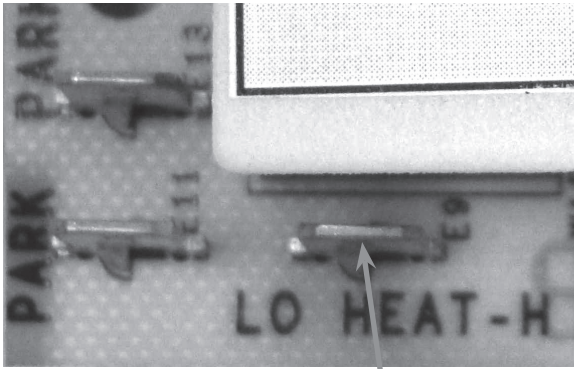

Figure 1 For low speed continuous fan speed connect one of the unused parked terminals here
- **IMPORTANT:** For low speed continuous fan speed operation, one of the unused parked motor taps must be connected to the low heat speed terminal. Failure to do this will result in the blower not energizing in the constant fan mode operation. Refer to figure 1.